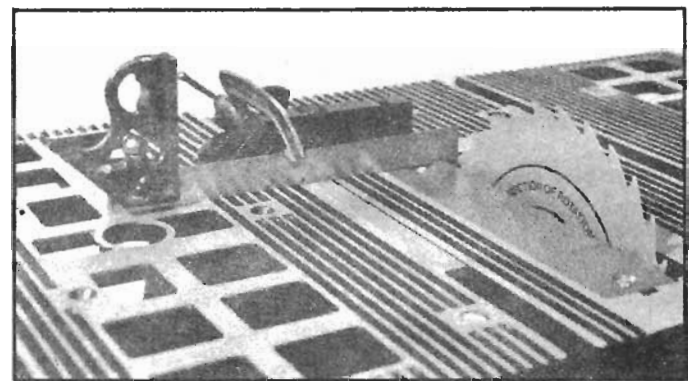

Fig. 23
2. Figs. 23 and 24 show a simple method of checking the alignment of the miter gage slot to the blade.
3. Place the miter gage in the right hand miter gage slot as shown in Fig. 23. Clamp a straight edge or equivalent to the face of the miter gage as shown. Move the straight edge until it just touches one of the teeth of the saw blade and clamp the straight edge to the miter gage body. Mark this tooth.